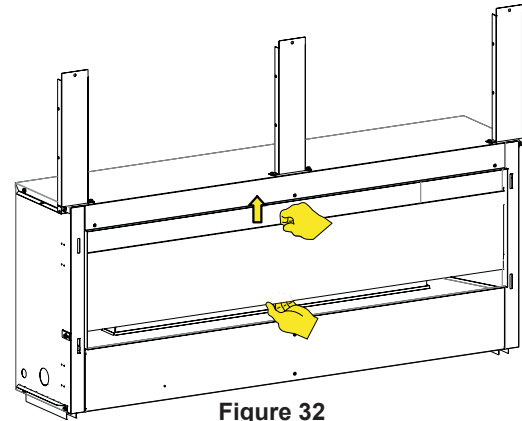

Figure 32
1. Remove the outer glass. See Figures 32 - 34.